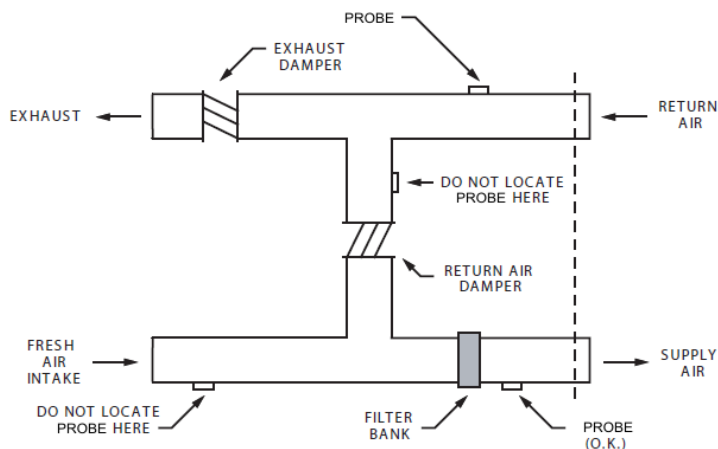

Figure 3-10: Probe Placement - Location of Dampers
2. Position the probes so that dampers do not restrict air flow at the probe location (Figure 3-10).
3. Position the probes on the return or supply duct of the equipment's air handling system. However, probes should NOT be installed in the return air damper branch (Figure 3-10).
5. Position the probes on the downstream side of filters to sense fire in filters. However, should the filters block, sufficient air flow may not be available for proper detector/sensor operation (Figure 3-10).